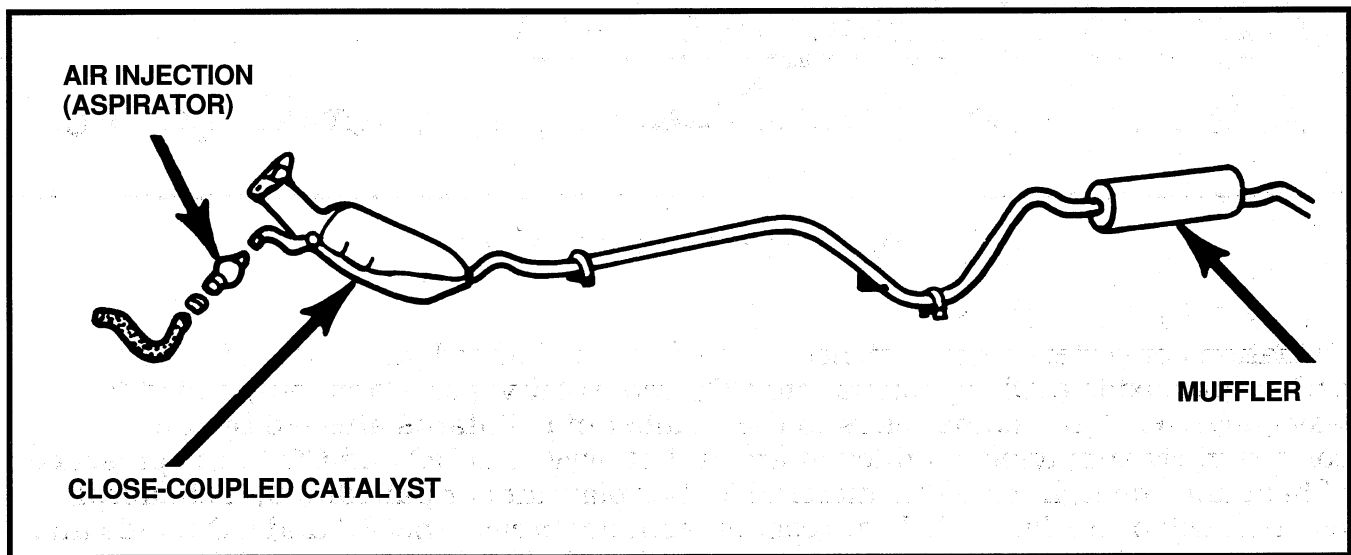

Figure 29 Close-Coupled Converter
The monolith design (fig. 29) uses a honeycomb of small ceramic passageways coated with a thin layer of platinum and palladium as catalysts. Pelletized converters use a bed of aluminum oxide pellets coated with platinum and palladium. Both designs direct exhaust gases over the honeycomb or the pellets, where they contact the catalysts. The temperatures of the exhaust gases increase, and they continue to oxidize. This converts the hydrocarbon (HC) and carbon monoxide (CO) into water (H₂O) and carbon dioxide (CO₂) before they enter the muffler. Reaching the proper operating temperature for this (approx 500°F) reaction is commonly known as "lighting off."